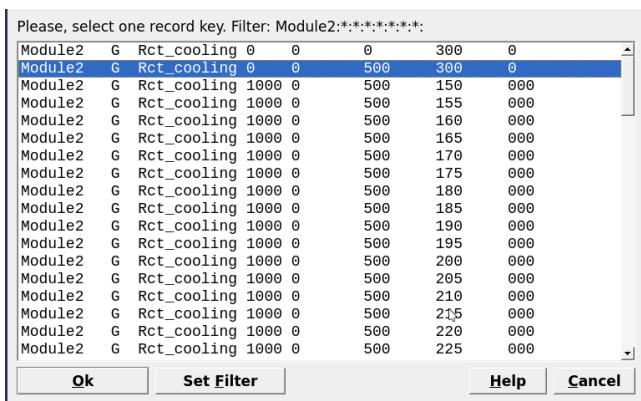

Figure 2.18: Select the parent record generated in ‘SysEq’ for your new ‘Process’ simulation.
- Switch to **Process** simulation mode and clone Rct_path_2. Select the Rct_cooling **SysEq** record (Fig. 2.18). Then call this new record Cooling_150-300C and select P for the simulation mode.